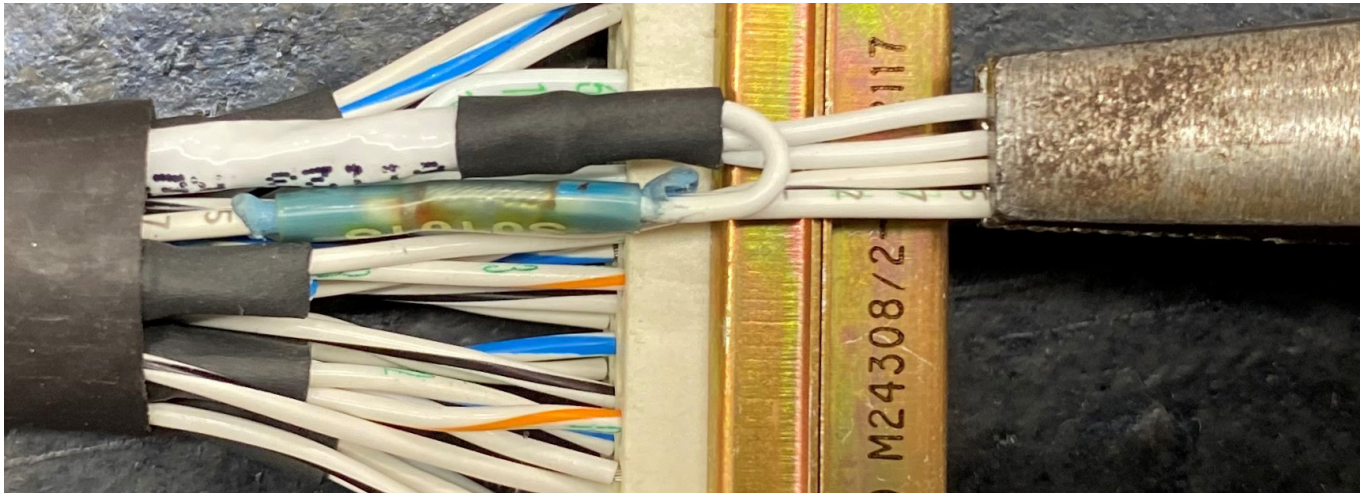

FIGURE 11 Remove wires (-572) & (-2886)
- 23. Refer to Figure 11. Using pliers, *slowly* pull & remove 4 previously cut wires and discard.